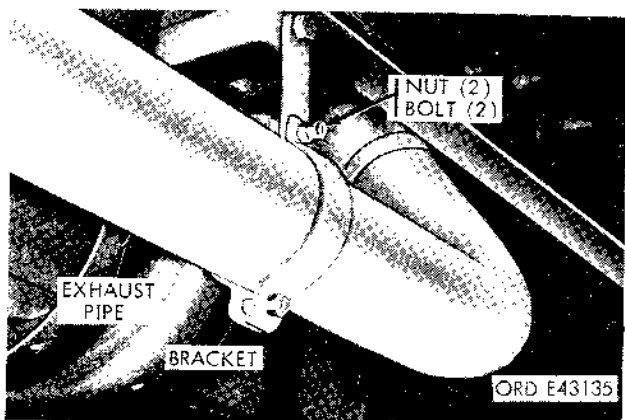

Figure 2-120. Removing center exhaust pipe front bracket.
(1) Refer to paragraph 2-104 *a* (3), and follow same procedure.
(2) Refer to paragraph 2-105 *a*, and follow same procedure.
(3) Remove the two nuts and bolts securing the front bracket (fig. 2-120).
(1) Secure the center pipe to the frame with the front and rear bracket (fig. 2-120). Tighten the nuts securing the brackets.
(2) Refer to paragraph 2-104 *b* (3), and follow a similar procedure.
(3) Refer to paragraph 2-105 *b*, and follow a similar procedure to complete the installation of the center pipe.